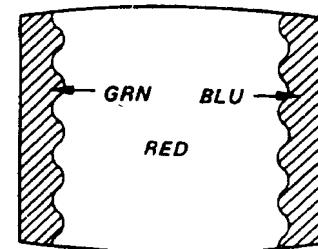

Fig. 3-2.
- Adjust purity control to center vertical red band as shown in Fig.3-2.